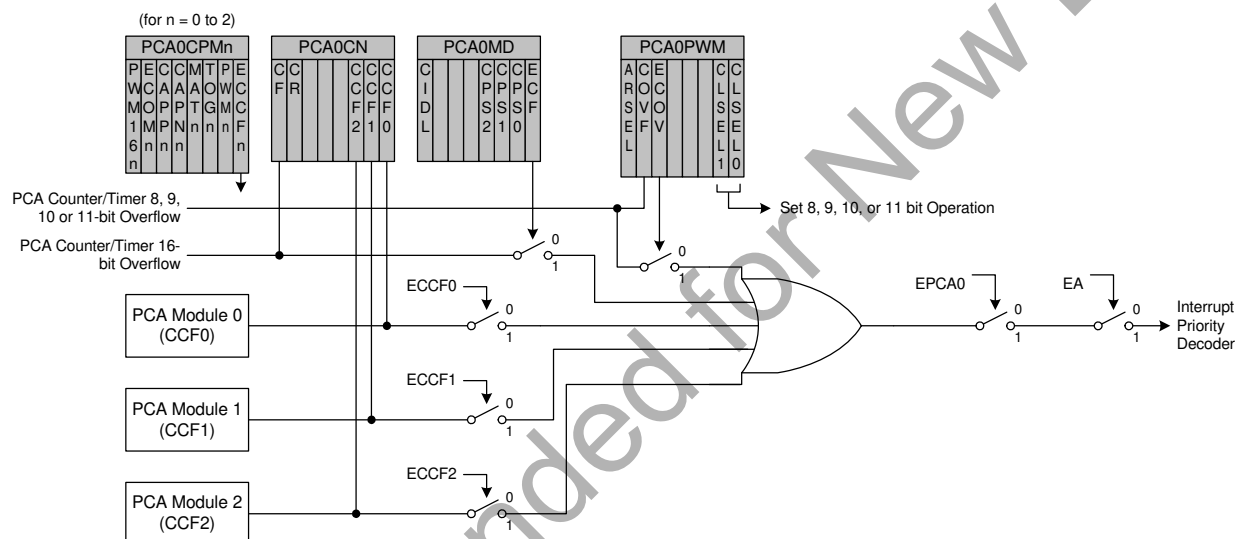

Figure 34.3. PCA Interrupt Block Diagram
Figure 34.3 shows a diagram of the PCA interrupt tree. There are eight independent event flags that can be used to generate a PCA0 interrupt. They are: the main PCA counter overflow flag (CF), which is set upon a 16-bit overflow of the PCA0 counter, an intermediate overflow flag (COVF), which can be set on an overflow from the 8th, 9th, 10th, or 11th bit of the PCA0 counter, and the individual flags for each PCA channel (CCF0, CCF1, and CCF2), which are set according to the operation mode of that module. These event flags are always set when the trigger condition occurs. Each of these flags can be individually selected to generate a PCA0 interrupt, using the corresponding interrupt enable flag (ECF for CF, ECOVF for COVF, and ECCFn for each CCFn). PCA0 interrupts must be globally enabled before any individual interrupt sources are recognized by the processor. PCA0 interrupts are globally enabled by setting the EA bit and the EPCA0 bit to logic 1.